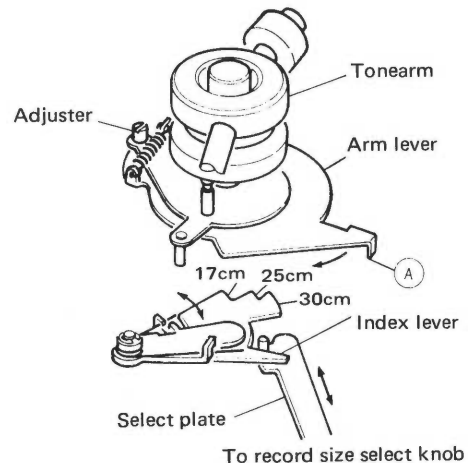

Fig. 9
The stylus is positioned at the beginning of a record according to the record size (17, 25, or 30cm) chosen with the Record Size Select knob. The stylus position is determined by one of three steps on the index lever shown in Fig. 9. Part (A) of the arm lever engages the corresponding step on the index lever.